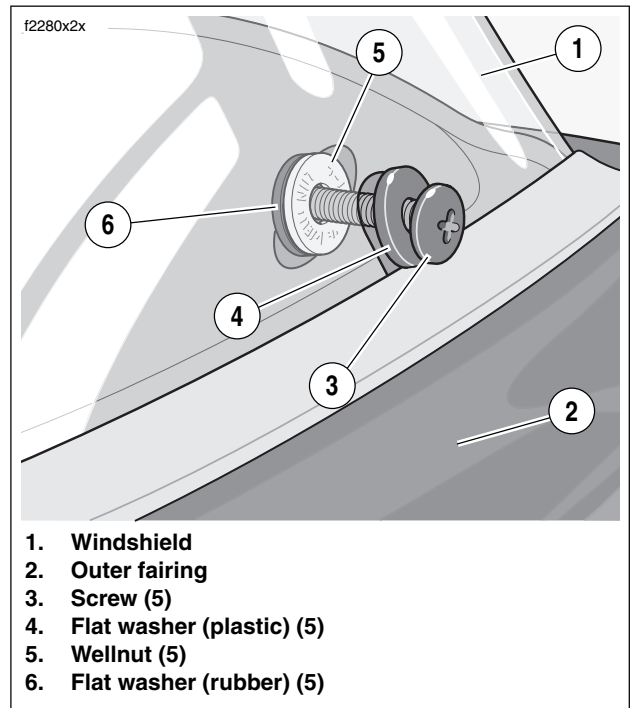

Figure 2-8. Windshield Installation-FLTR Models
1. See Figure 2-8. Place black plastic washers (4) on the five mounting screws (3). Position rubber trim along bottom of windshield. Insert screws through windshield holes and thread loosely into five Wellnuts (5) with rubber washers (6).